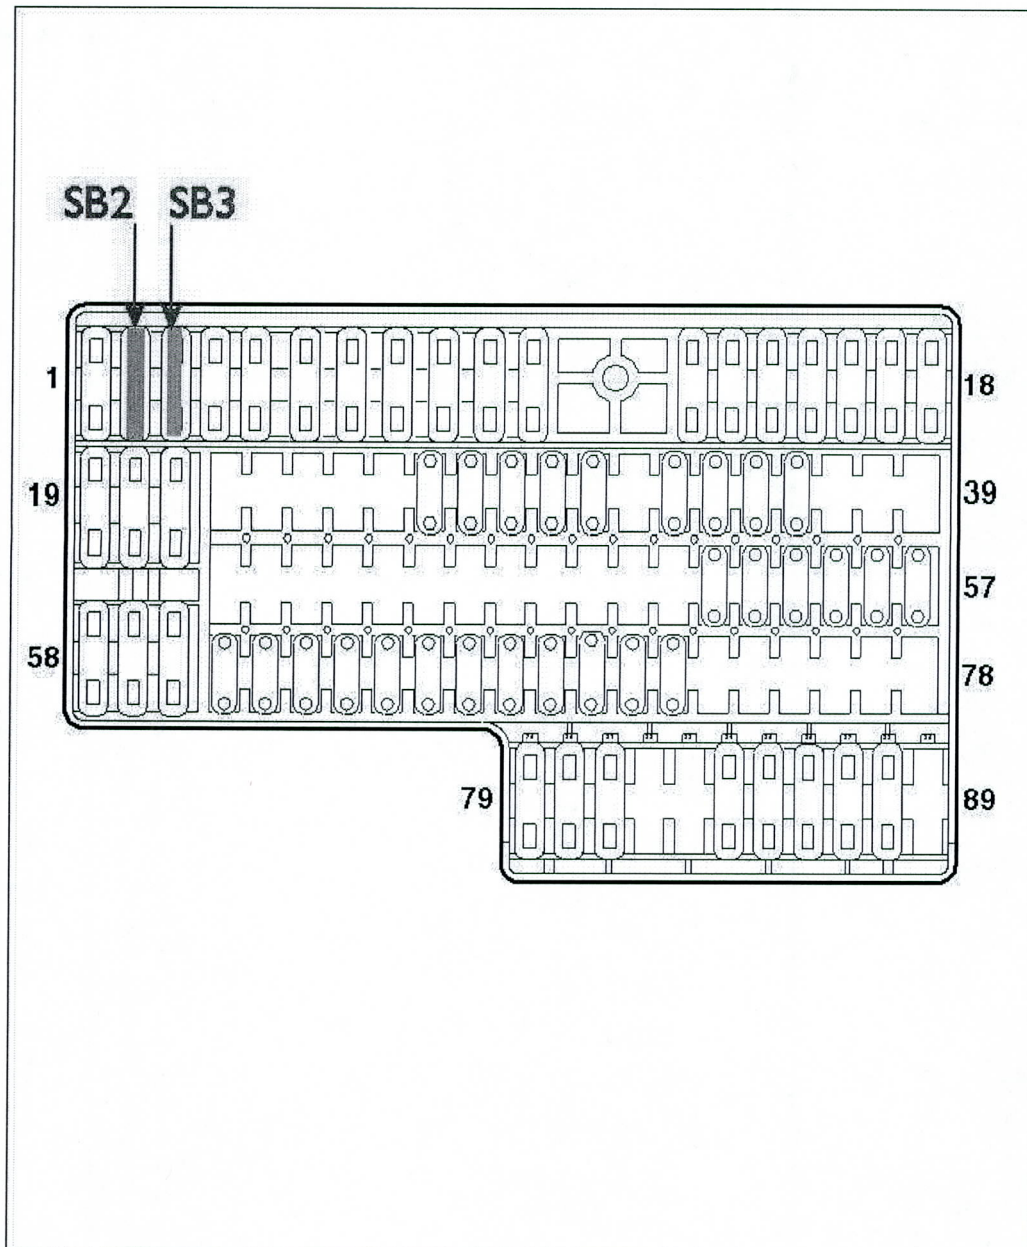

Figure 1
- When the seat belt presenters are deployed remove fuses SB2 (30A) and SB3 (30A) from drivers facia fusebox (see Figure 1)
6. Refit both fuses, SB2 (30A) and SB3 (30A), into the drivers facia fusebox (see Figure 1)